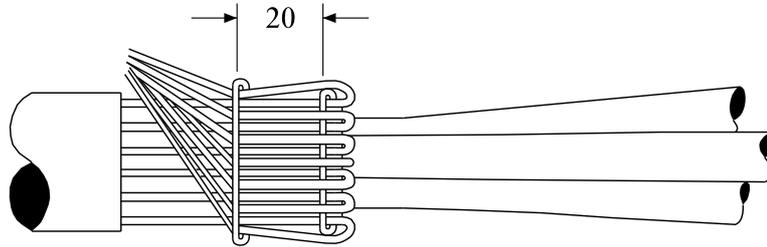

Fig 2
2. Place a mark onto the lead sheath 13mm from its termination point – Fig 2.
3. Taking each copper strip in turn, lift and thoroughly degrease, lay back onto the lead sheath and trim at the 13mm mark – Fig 2.
10. Once clear of the outer diameter of the collective copper wire screens apply sufficient lapped turns to form a tapered profile, to the semi-conducting screens of the three cores, see – Fig 2.